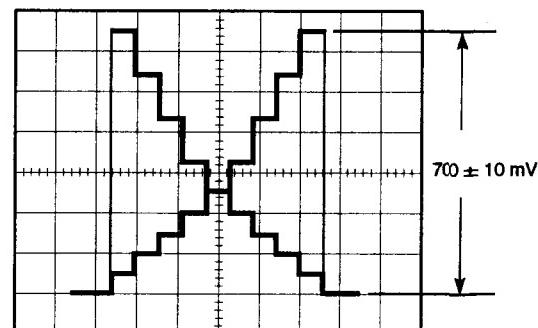

Fig. 5-1-36
- Adjust VR101 so that the Video signal level becomes 700 ± 10 mV as shown in Fig. 5-1-36.
- Adjust VR201 so that the Video signal level becomes 700 ± 10 mV as shown in Fig. 5-1-36.
- Adjust VR301 so that the Video signal level becomes 700 ± 10 mV as shown in Fig. 5-1-36.